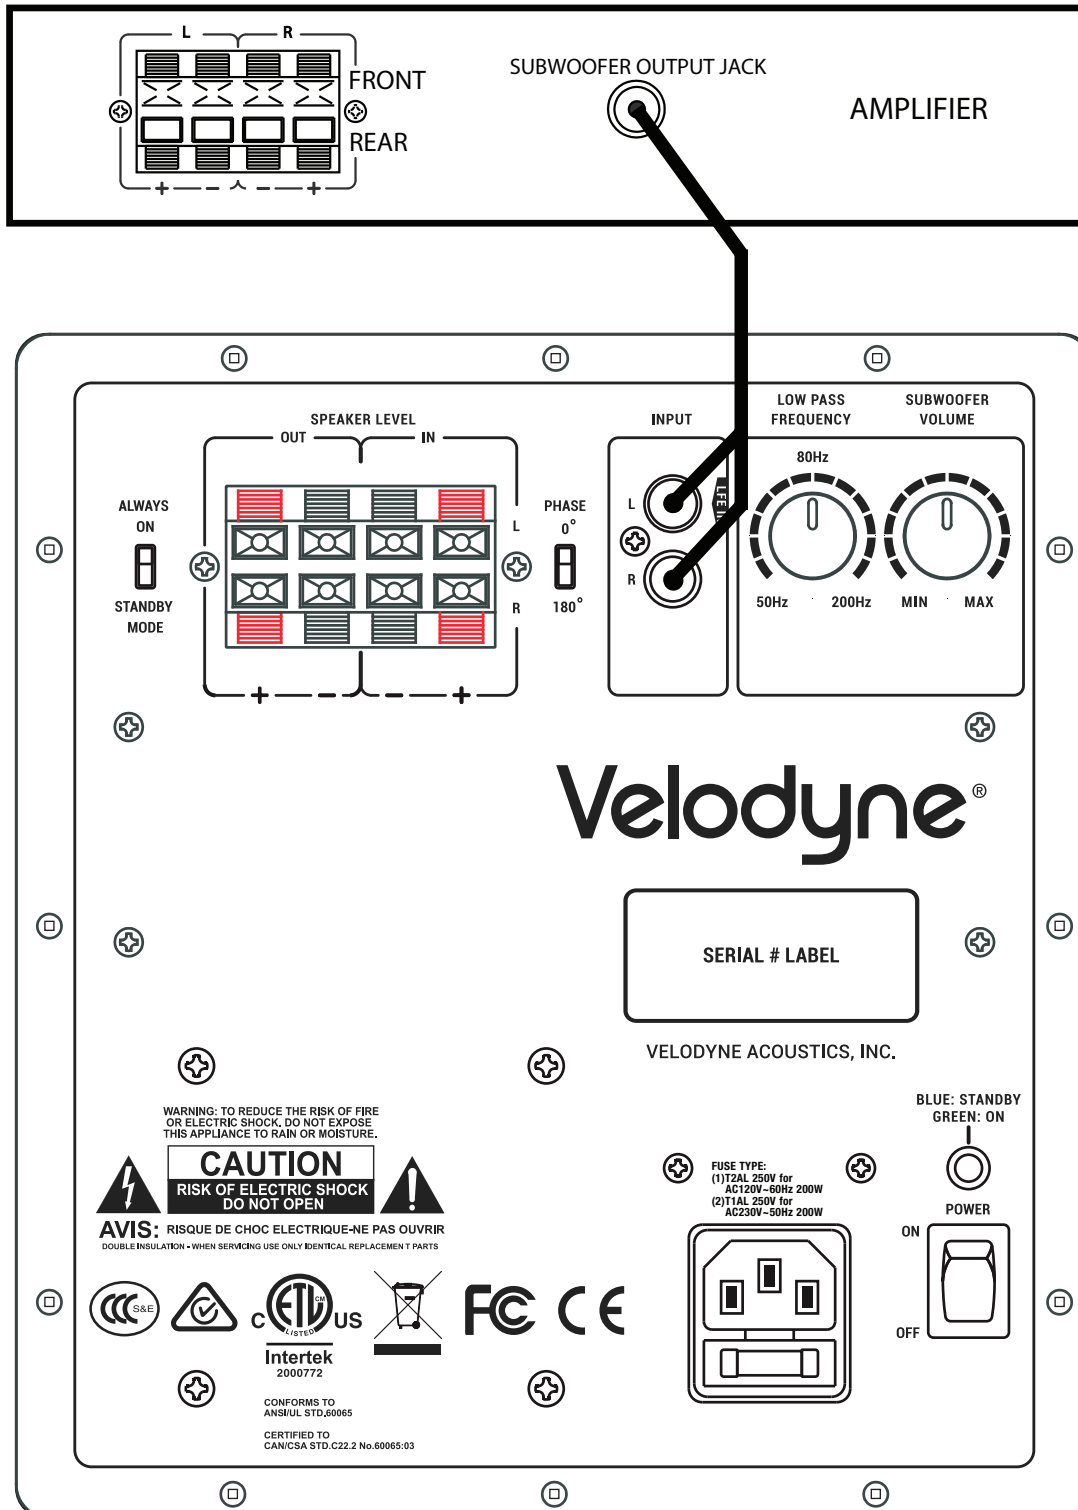
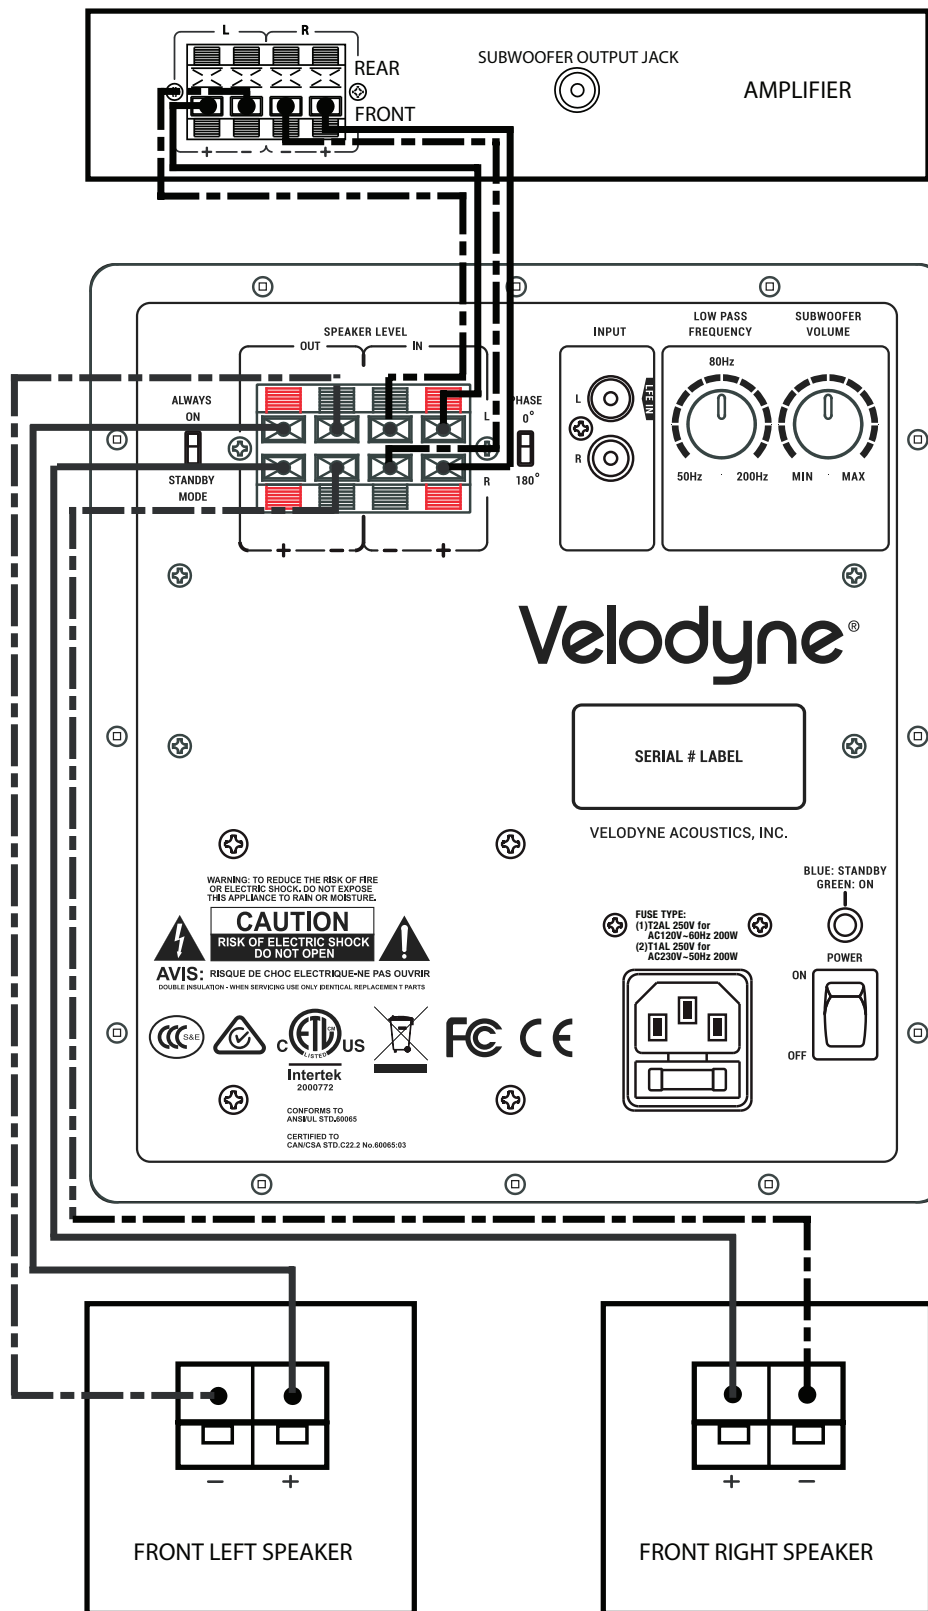

Figure 2a. Line-Level Subwoofer Connection Diagram
Figure 2b. Speaker-Level Subwoofer Connection Diagram
- 1) If using line level jacks, BOTH THE LEFT AND RIGHT INPUT CAN BE USED – never use just the Left or just the Right input. If the subwoofer's signal comes from the LFE channel of your receiver, use a "Y" splitter to connect to both the left and right inputs. If using line level connections from a preamp or signal processor, use both Left and Right inputs from your preprocessor or preamp and connect them to the Left and Right inputs on your subwoofer. (See figure 2a on page 7.)
- 2) If using a receiver with LFE out, be sure the LFE channel is sending adequate signal to the subwoofer. We recommend setting the receiver's LFE output to the neutral 0dB output then adjust sub volume to taste. (See figure 2b on page 8.)
(Refer to Figure 2a Line-Level Subwoofer Connection Diagram and Figure 2b Speaker-Level Subwoofer Connection Diagram, pages 7 and 8 for connection diagrams.)